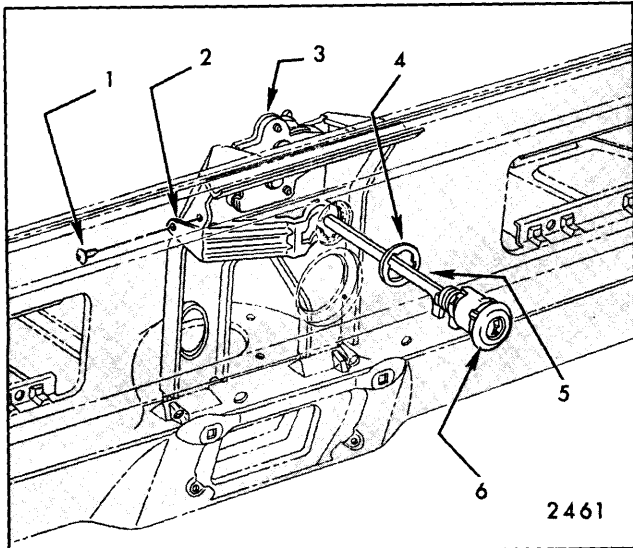

Fig. 8-14—Typical Rear Compartment Lid Lock Cylinder Installation (Side Load)
3. To install, reverse removal procedure. Insure that lock cylinder shaft engages with lock and gasket mates properly with outer panel to form a watertight seal. Check lock cylinder for proper operation (see Figs. 8-14 & 8-15).